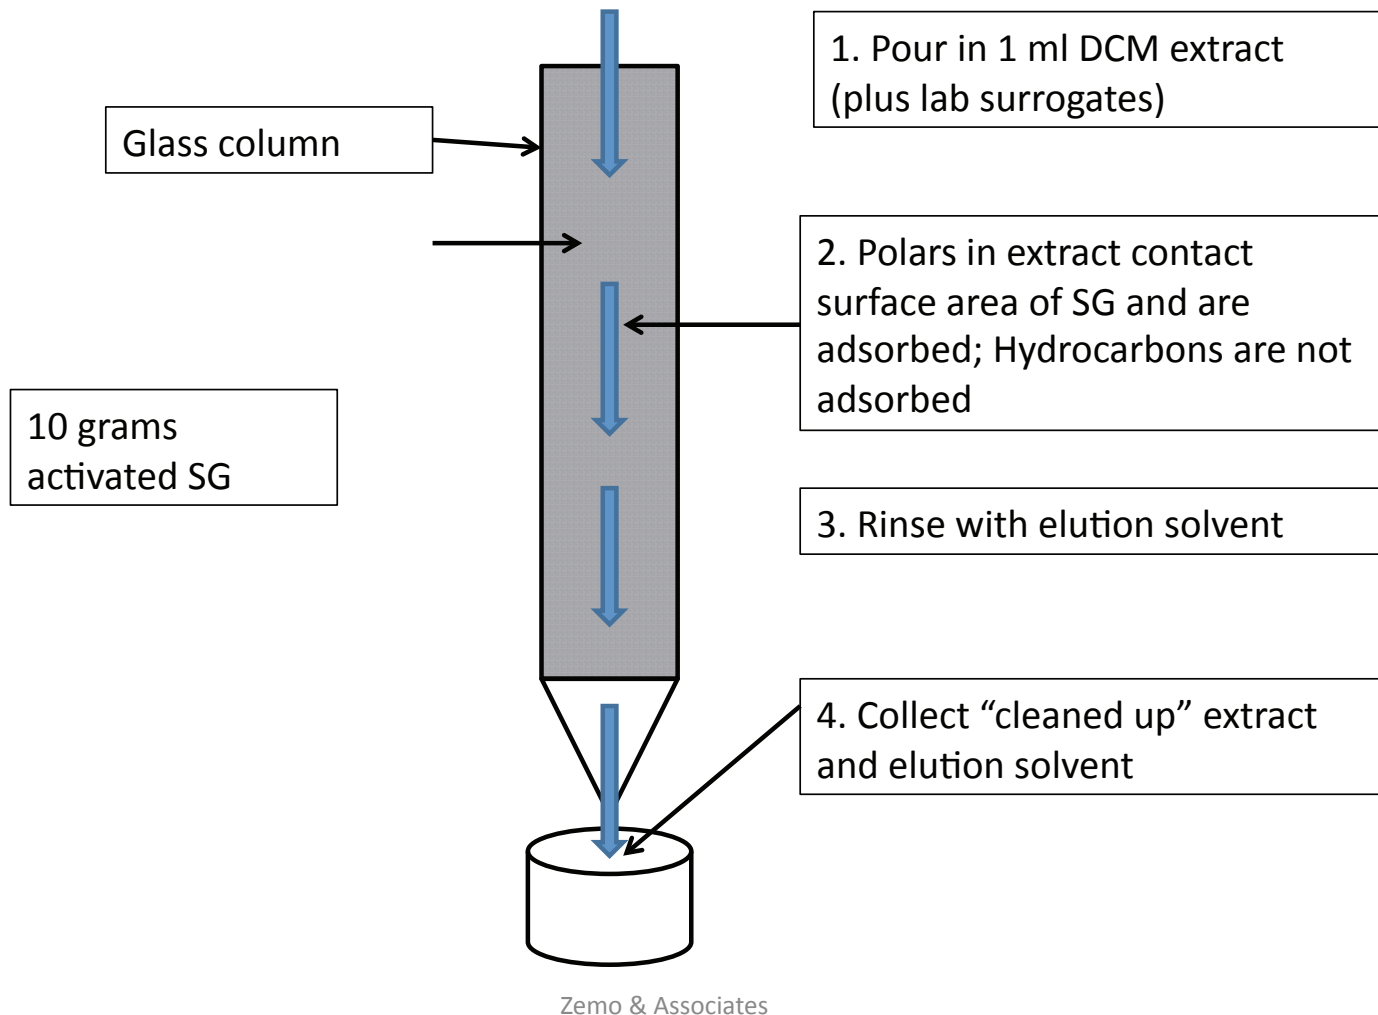

Figure A2-1. SGC schematic (USEPA 3630C)
Silica gel (SG) is used for the cleanup because it is a polar substance and therefore adsorbs the polar non-HCs. The best SGCs are based on SW-846 Method 3630C, which is a column cleanup procedure (Figures A2-1 and A2-2). A glass column is packed with SG, the extract is poured onto the column, the SG preferentially adsorbs the polar non-HCs as the extract moves through the column, and the “cleaned up” extract is collected at the bottom and then analyzed for TPH. Lab surrogates are added to the extract before the procedure to monitor effectiveness of the procedure. Other SGC methods can be used and typically are based on adding a few grams of SG to the extract vial and shaking it for a specified time period. Research shows that the shake method is not as effective as the column cleanup for methylene chloride extracts.